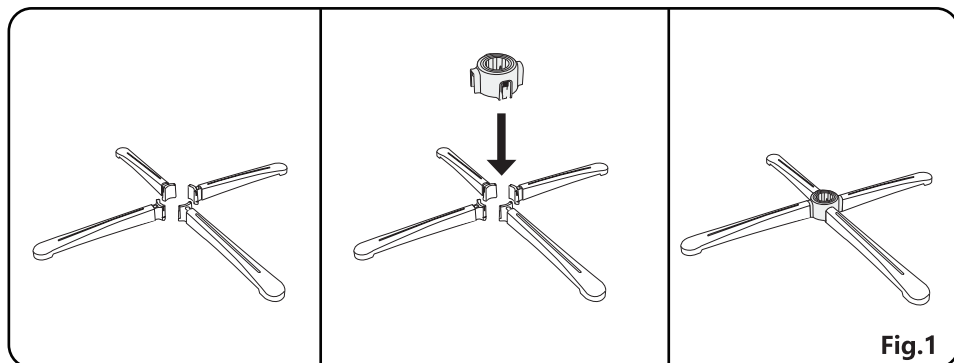

Fig.1
1. Lay the four brackets flat with the front facing up as the figure shows. Then assemble the brackets into the slots of the connector.(Fig. 1)